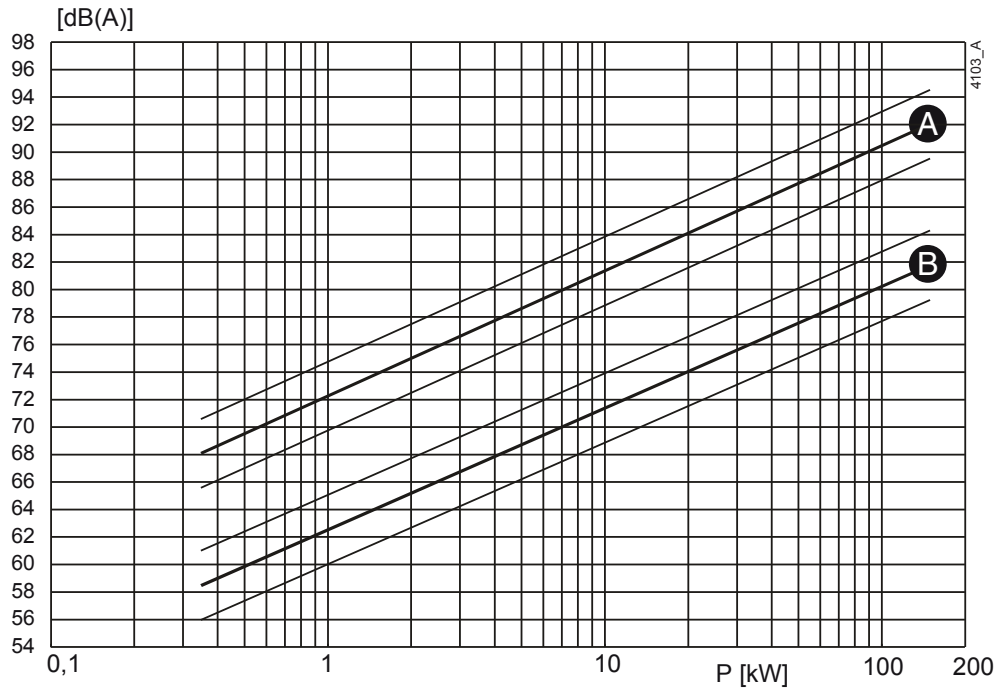
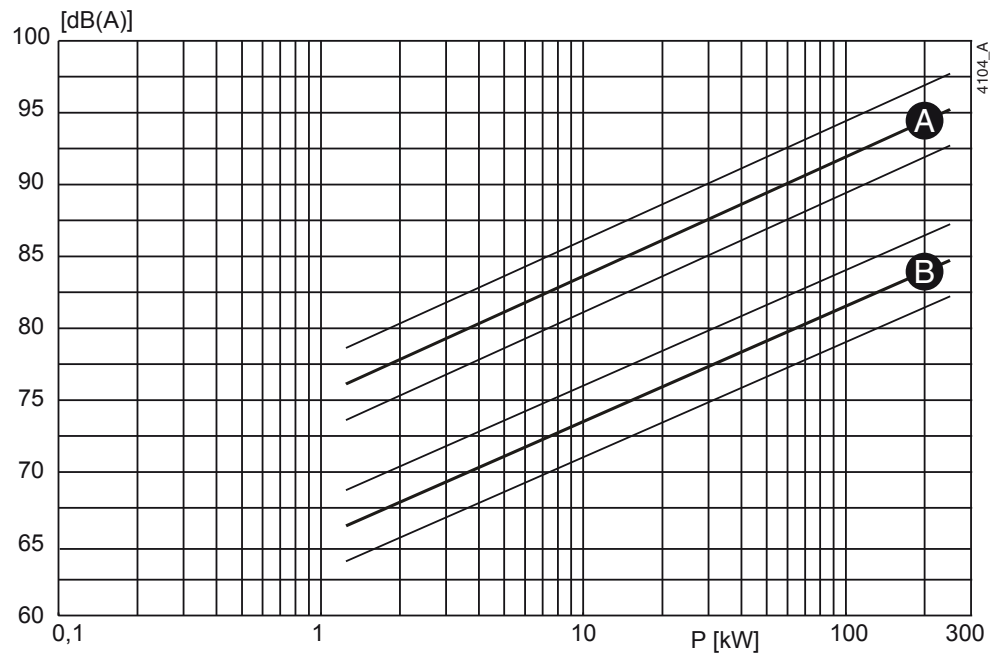

Figure 20: Noise level as function of pump power [kW] at 1450 min^{-1}
Figure 21: Noise level as function of pump power [kW] at 2900 min^{-1}
- 1 Determine the noise level (L1) of the pump, see figure 20 or figure 21.